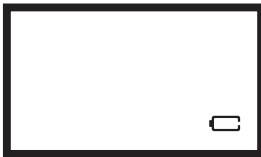

Figure 14
1. Charge the product when "  " appears in the bottom of LCD display. (See figure 14).